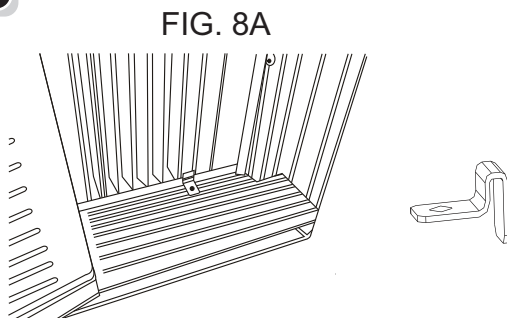
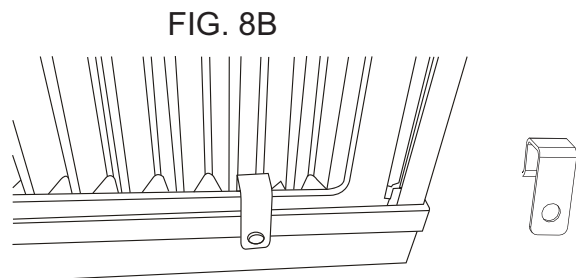

FIG. 8A
FIG. 8B
- 5** Place the frame lock between the frame extensions and the window sill as shown (FIG. 8A for wooden windows), (FIG. 8B for Vinyl-Clad windows).